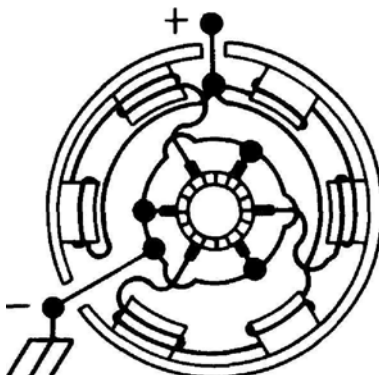

Figure 1-3. Internal Motor Circuits
- 2) Brush holder terminal stud (1) extends through but is insulated from the end plate. This stud is used for connection to the ground of the power supply as shown schematically in the diagram of internal motor circuits (fig. 1-3).